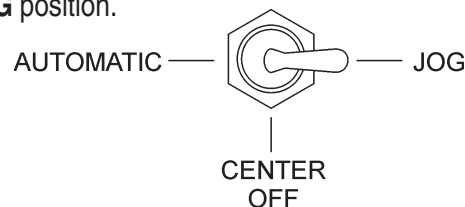

Figure 42. Cylinder Stroke Control Switch (JOG)
1. To determine the pressure of the Hydraulic System, set the **Cylinder Stroke Control Switch** (Figure 42) to the **JOG** position.